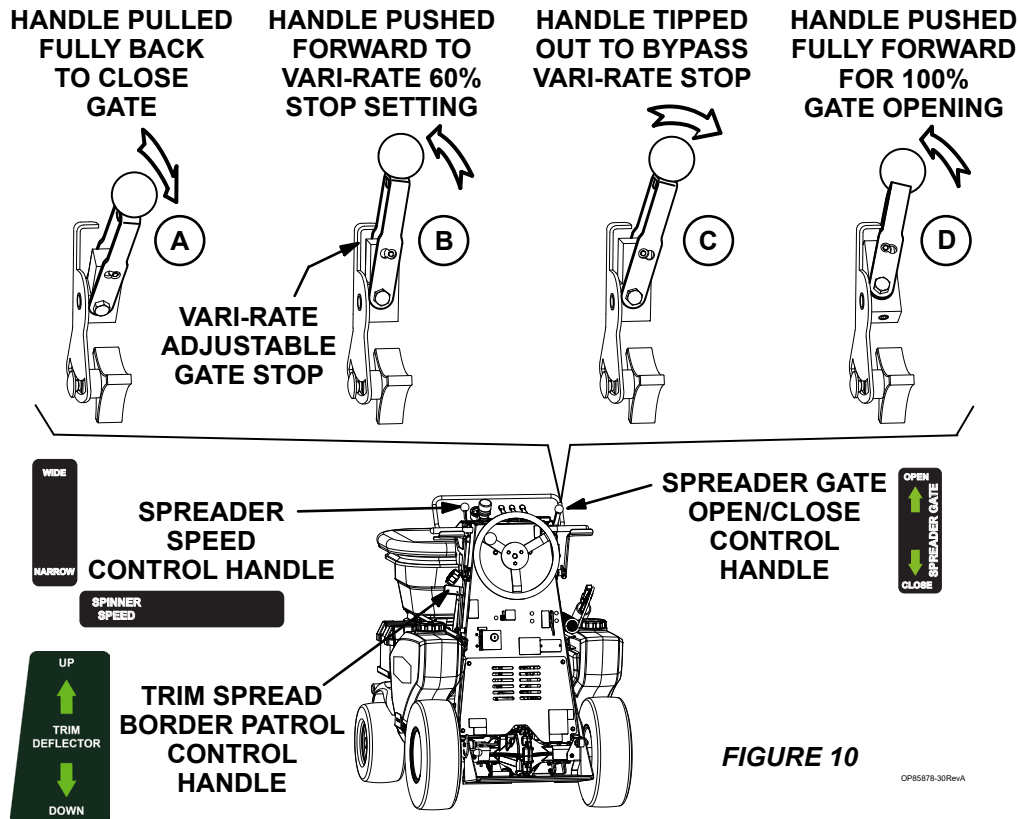

FIGURE 10
2. Pull the Trim Spread Handle back to lower the boarder patrol deflector (ON).
3. Open the Spreader Gate Open/Close Control handle. Handle should be positioned to stop at Vari-Rate stop - See Position "B" in Figure 10. This way you will be spreading only to the right and the rate will be at 60% of the full rate. The spread pattern will start approximately 2" to 3" inches to the left of the front tire and spread out to the far right.
See Position "B" in Figure 10. This way you will be spreading a narrow pattern (approximate 5 to 6 foot) at 60% of the full rate and it will only be going to the right (See Figure 11).
4. Open the Spreader Gate Open/Close Control handle. Handle should be positioned to stop at Vari-Rate stop - See Position "B" in Figure 10. This way you will be spreading a narrow pattern (approximate 9 foot or less) at 60% of the full rate.